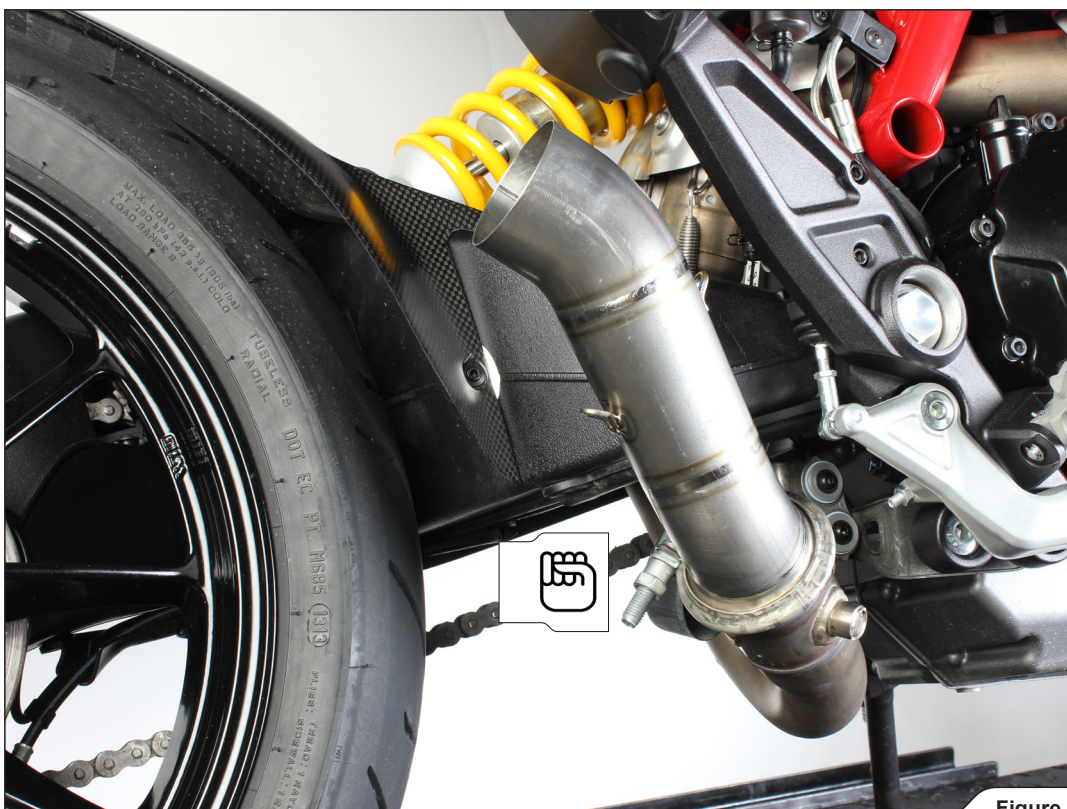

Figure 2
1. Hand tighten the link pipe onto the outlet side of the stock collector, using stock clamp (Figure 2).